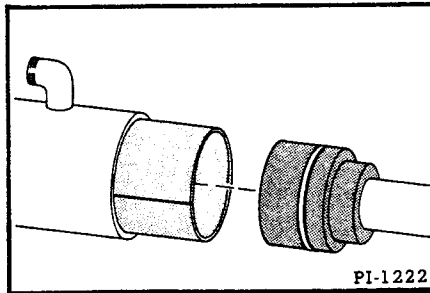

Fig. 147 Using the Cylinder Repair Tool
5. Use the special cylinder repair tool (Figure 147) when installing the piston into the cylinder. This tool will prevent the threads in the end of the cylinder case from damaging the piston seals.